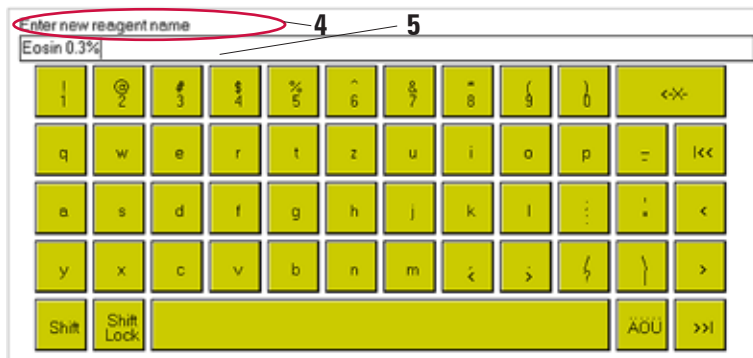

Fig. 29
The alphanumeric keyboard (Fig. 29) resembles a computer keyboard. An entry field (5) and instructions on what kind of data to enter (4) are located above the keyboard. The amount of characters that can be entered varies, depending on the type of data to be entered. If there is a predetermined number of characters to be entered, that number will be displayed in the entry field. The cursor is located on the left.